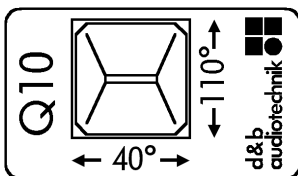

Fig. 11: Q10 horn dispersion label
2. Rotate the horn through 90° - Fig. 11.